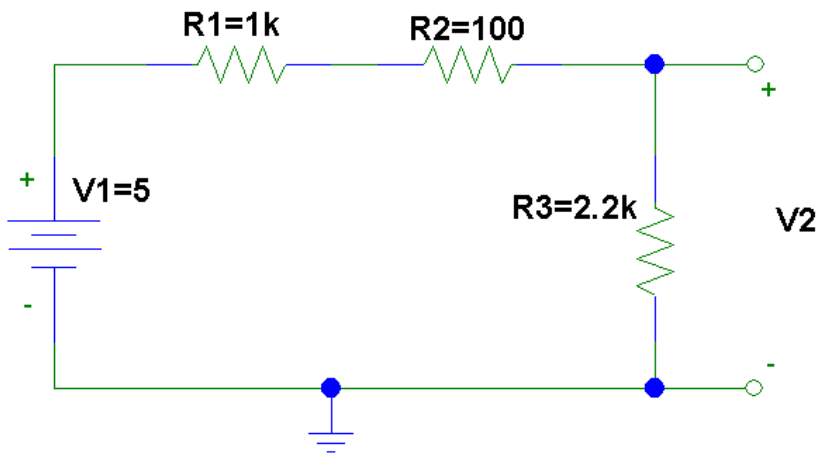

Figure 10: The voltage supply value is in volts and the resistance values are in ohms.
1. Set up the series circuit in Fig. 10. Use the variable power supply and remember to return the circuit to ground.